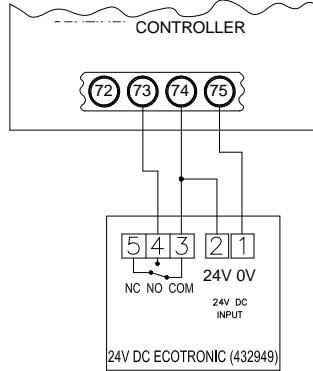

FIG 12: SYSTEM BOOST CONNECTION FOR HUMIDISTAT MIN TO MAX SETTING
- Fig.12 - Ecotronic Humidistat